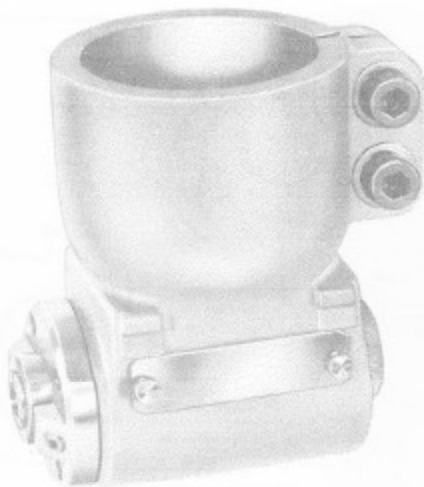

Fig. 42. 90° Milling Head main assembly.
- A. Insert drive gear arbor in milling machine spindle and tighten screws as shown in Fig. 42.